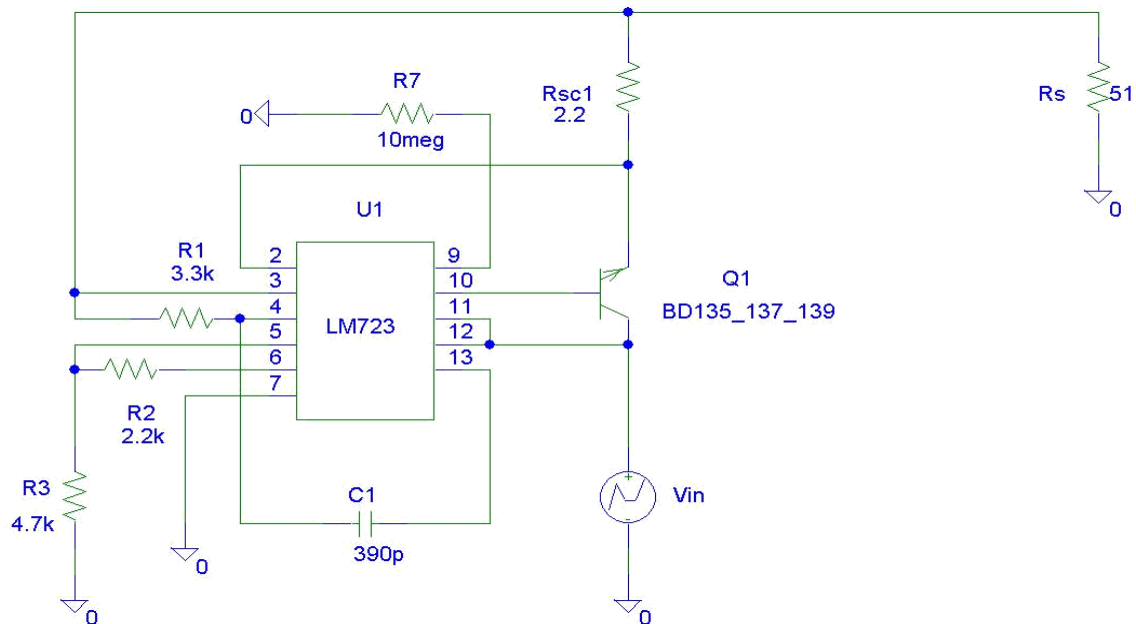

Fig 4. The schematic diagram of the voltage regulator for small output voltages $V_o < V_R$
The schematic diagram of the voltage regulator with low output voltages ($V_o < V_R$) is represented in Fig.4.
- Draw the circuit diagram of the linear voltage regulator with $V_o < V_R$ (Fig. 4).